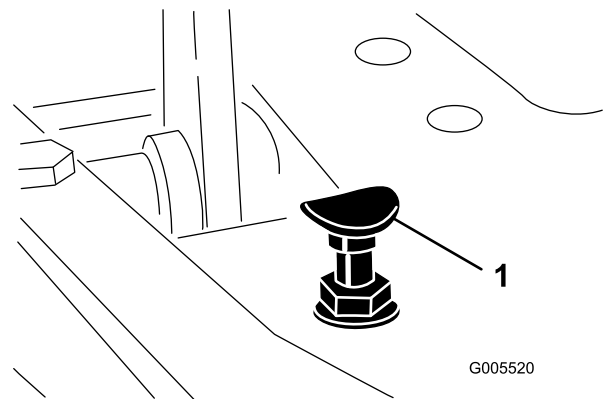

Figure 52
To obtain maximum transport speed, put the functional control lever in the transport position and press down on the traction pedal. If the pedal contacts the stop (Figure 52) before tension is felt on the cable, an adjustment is required:
1. Put the functional control lever in the transport position and loosen the locknut securing the pedal stop to the floor plate (Figure 52).